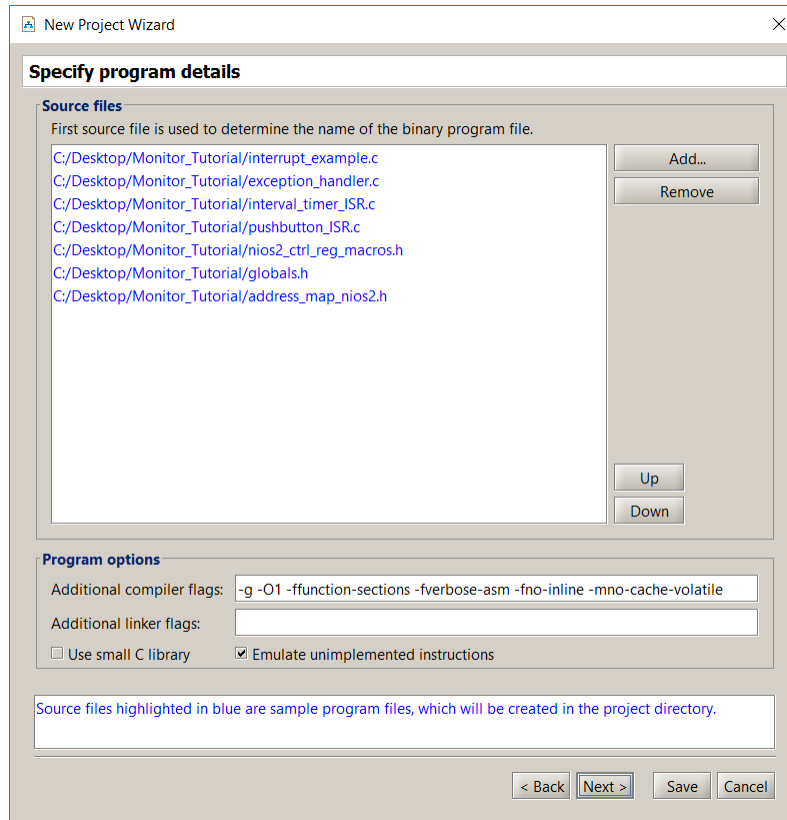

Figure 35. The source files for the C code interrupt example.
To see an example of a C program that uses interrupts, create a new project called *Monitor_Interrupts_C*. When creating this project, set the program type to **C Program** and select the sample program named *Interrupt Example*; this program gives C code that performs the same operations as the assembly-language code in the previous example. The source files for the C code are listed in Figure 35. The main program is given in the file *interrupt_example.c*, and the other source files provide the reset and exception handling for the C program, as well as two interrupt-service routines. Complete the steps for creating the project, and then compile and load it.
- Memory element size - the display can format the memory contents as bytes, half-words (2-bytes), or words (4-bytes). This setting can be configured by right-clicking on the Memory window, as illustrated in Figure 35.